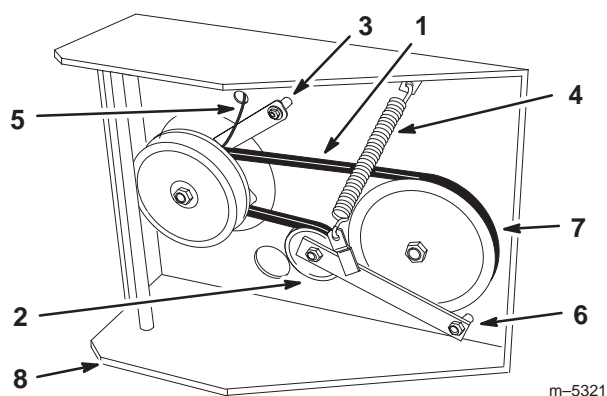

Figure 61
2. Disconnect clutch wire connector from wire harness (Fig. 61).
4. Remove clutch retainer from the engine deck (Fig. 61).
5. Unhook tension spring from side of frame (Fig. 61).
6. Loosen pivot bolt enough to remove traction belt from the drive pulley and clutch (Fig. 61).
8. Torque pivot bolt to 35-40 ft. lb. (47-54 N.m). Install tension spring between idler arm and frame bracket (Fig. 61).
9. Install clutch retainer to the engine deck (Fig. 61).